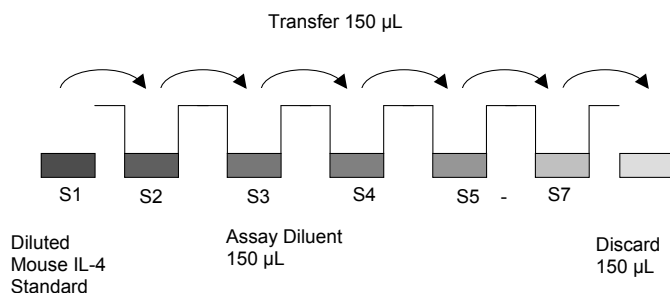

Fig. 9 External standard dilution
3. Pipette 150 µL of the diluted standard (concentration = 40 pg/mL) into the second tube, labeled S2, and mix thoroughly before the next transfer. Repeat serial dilutions 5 more times thus creating the points of the standard curve (see Figure 9).